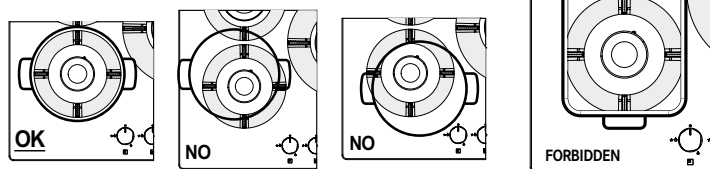

Fig. 1
FRANKE declines any liability for damage due to such use (Fig. 1).
- ▷ Do not put the same pan on two burners (Fig. 1).
- ▷ Do not use two burners working at the same time with a single container, like a saucepan or a fish pan (Fig. 1).